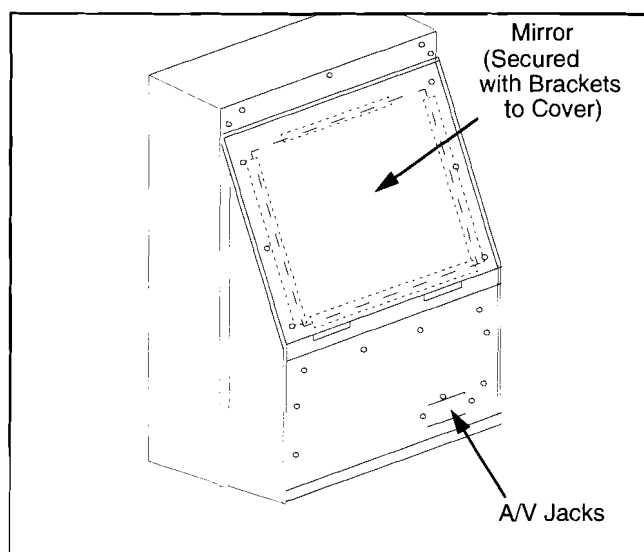

Figure 11. Back Covers Removal
Bottom Back Cover (Figure 11)
Back Cover Assembly (Figure 11)
2. Remove the Bottom Back Cover. (Figure 11)
3. The main chassis Block is secured to the cabinet by (4) screws (2 at front, behind the decorative panel, 2 inside on bottom of optical frame).